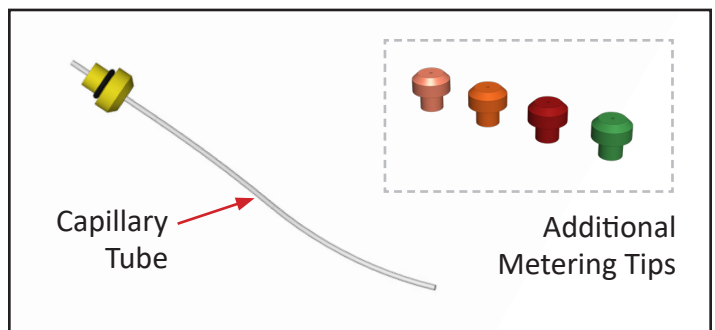

Fig. 6.3: Metering Tips and Capillary Tube
- The smallest metering tip is a yellow tip with a small tube attached. This tube can be trimmed to alter the dilution ratio. [Figure 6.3]